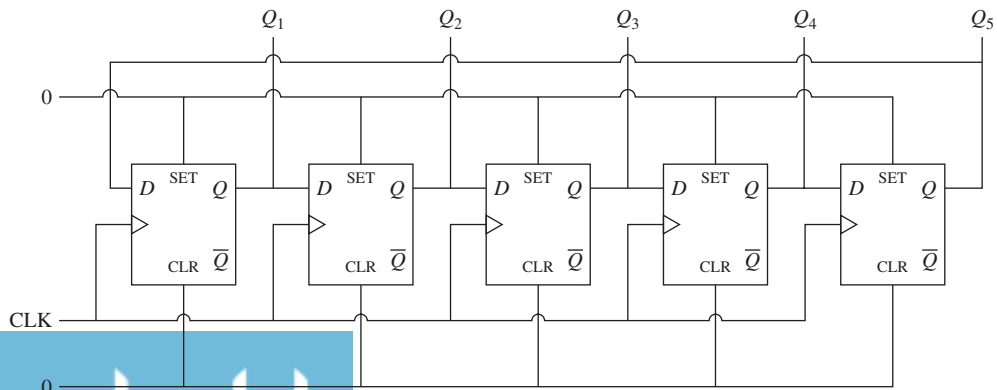

FIGURE P10.66 A 5-bit shift register.
10.66 (A) A 5-bit shift register constructed with D flip-flops is shown in Figure P10.66. At the first CLK rising edge, the output is as follows: $Q_1 = 0, Q_2 = 1, Q_3 = 1, Q_4 = 0, Q_5 = 0$. Provide the output at the second, third, fourth, and fifth CLK rising edges.